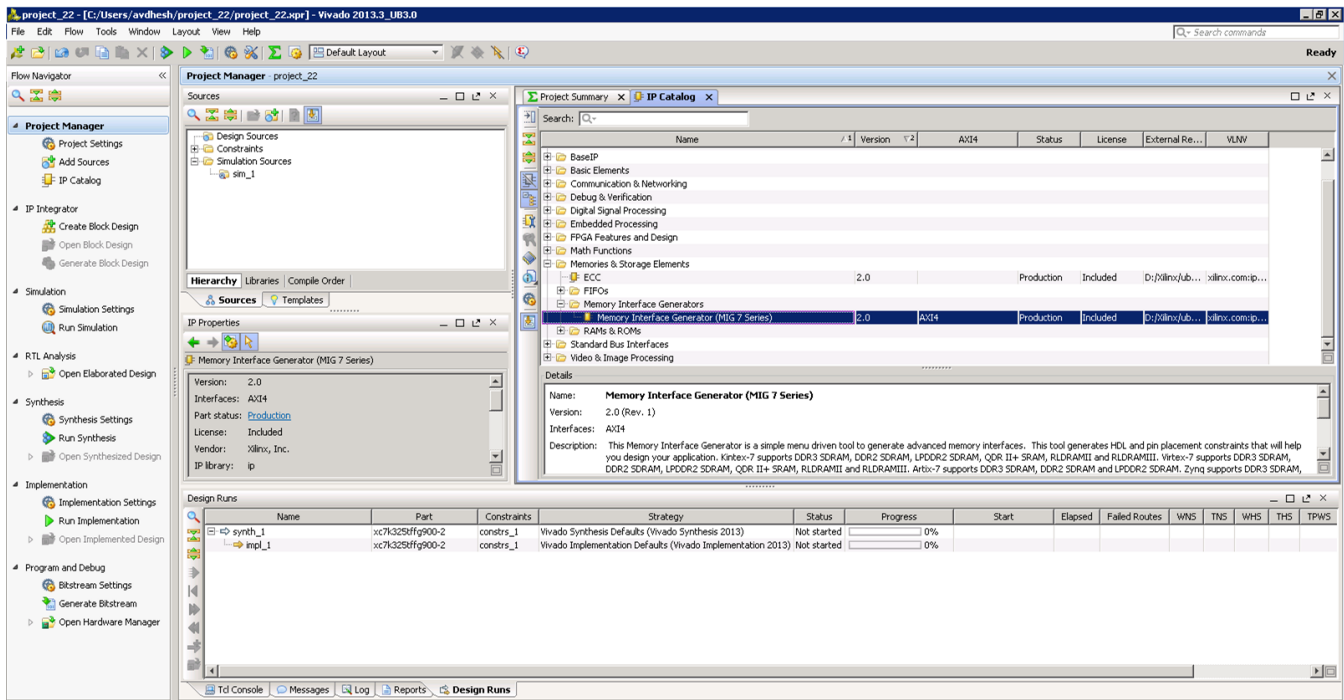

Figure 2-12: IP Catalog Window – Memory Interface Generator
11. Click **IP Catalog** on the **Project Manager** window to open the Vivado IP catalog window. The IP catalog window appears on the right side panel (see Figure 2-12, highlighted in a red circle).
12. The MIG tool exists in the **Memories & Storage Elements > Memory Interface Generators** section of the IP catalog window (Figure 2-12) or you can search from the Search tool bar for the string "MIG."